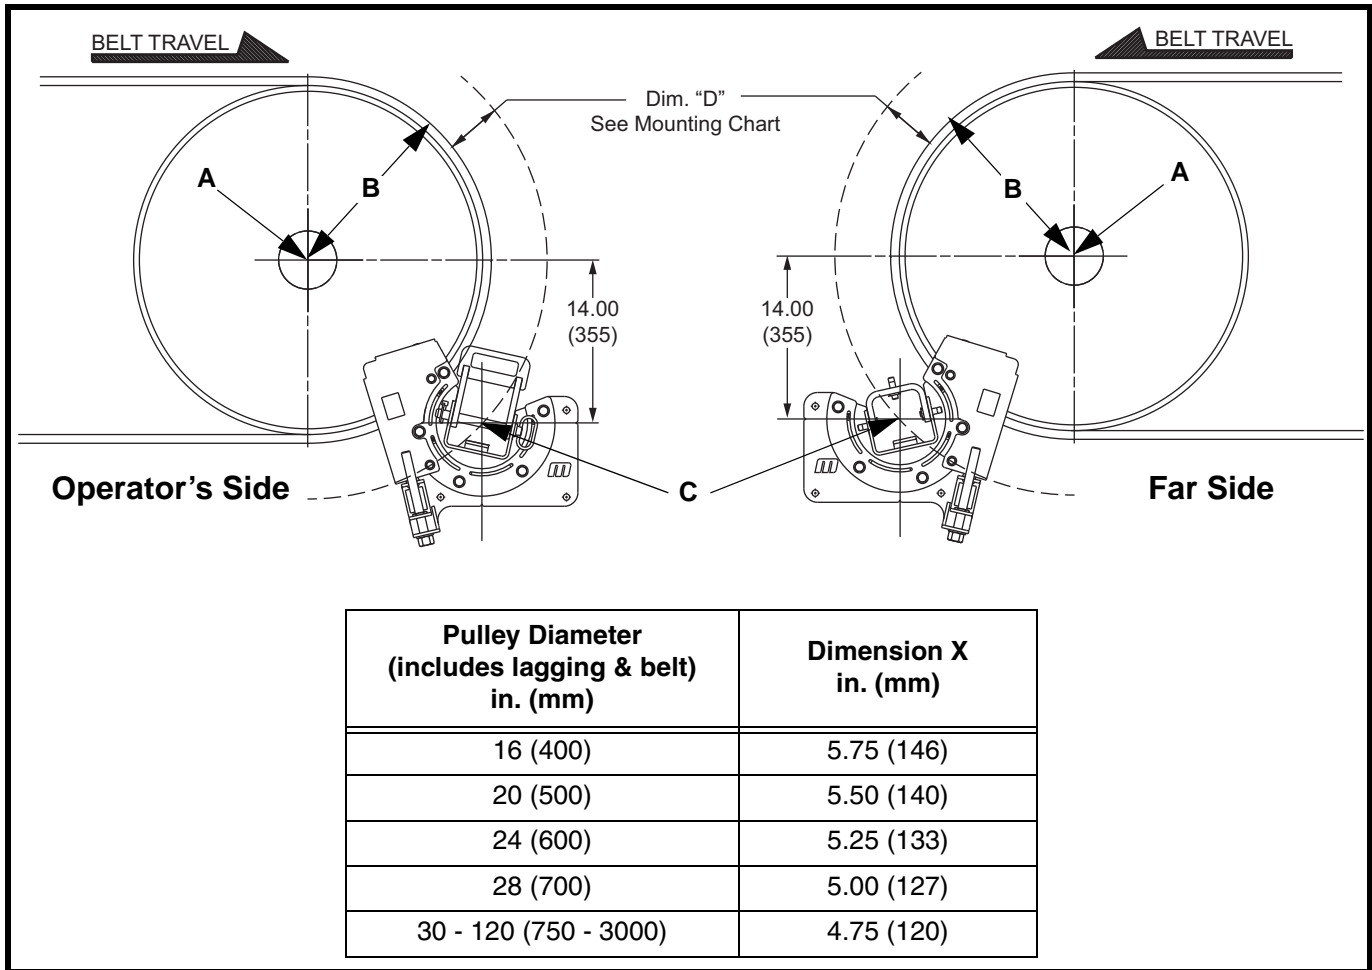

Figure 1. Belt Cleaner Location
1. On operator side of chute, find pulley center point (A).
2. Measure radius of head pulley including lagging and belt thickness (B). To this dimension, add dimension X from table in Figure 1.
3. Starting from center point (A), measure the total distance calculated in step 2 (B + X) and draw an arc on chute wall.
4. Measure down from pulley's horizontal centerline the distance shown in Figure 1 and draw a horizontal line parallel to it. Locate center point of belt cleaner mainframe (C) where this line intersects the arc on the chute wall.